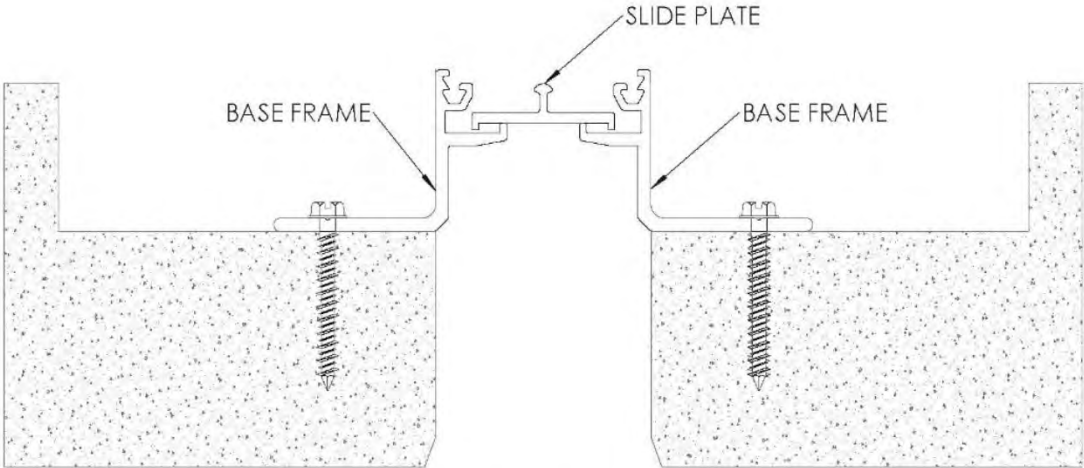

FIGURE 3
- 3. Place slide plate (not required on 1” joint sizes) in the lower channels of the base frames with the bent ends of the plate pointing downwards. **See Figure 3**